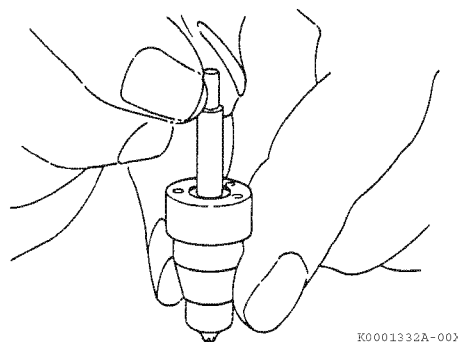

Figure 7-31
- (b) While holding the nozzle body vertical, pull the nozzle valve about 2/3 of the way out (**Figure 7-31**).